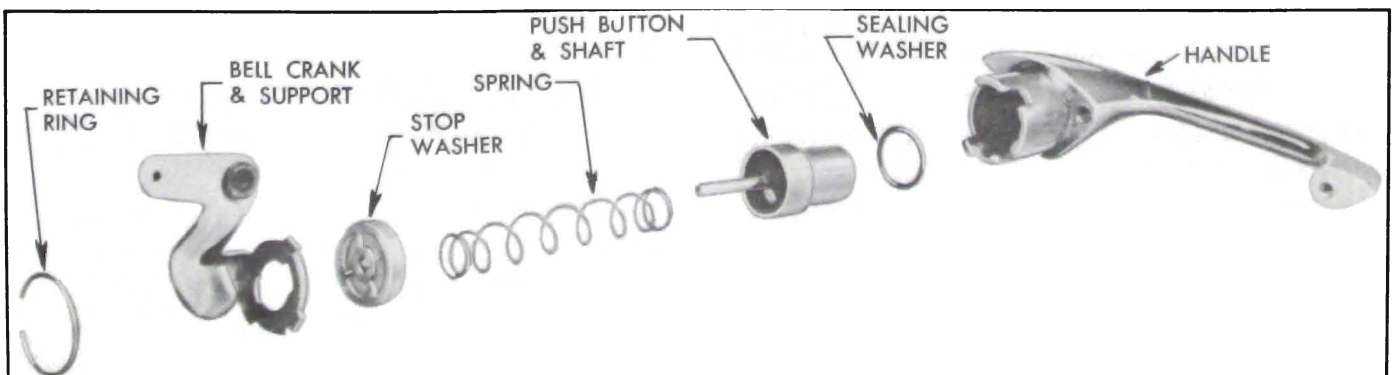

Figure 13-219—Rear Door Outside Handle—Disassembly and Assembly
2. Remove spring retainer, bell crank and support, stop washer, spring, push button and shaft, and sealing washer. See figure 13-219.